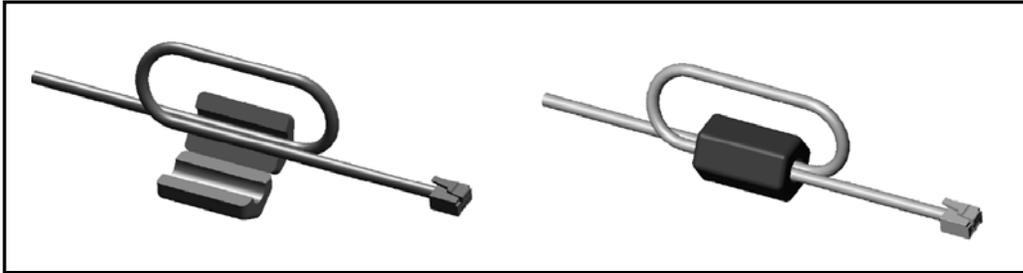

Figure 3. Ethernet cable filter installation. The clip-on filter core is supplied with the i-Sense.
- 🔌 8P8C (RJ45) modular Ethernet cable. Pass the Ethernet cable through the included RF filter core, and close the core securely, as shown in Figure 3. Failure to install the cable filter may result in RF emissions beyond the standards of the EU's EMC Directive.